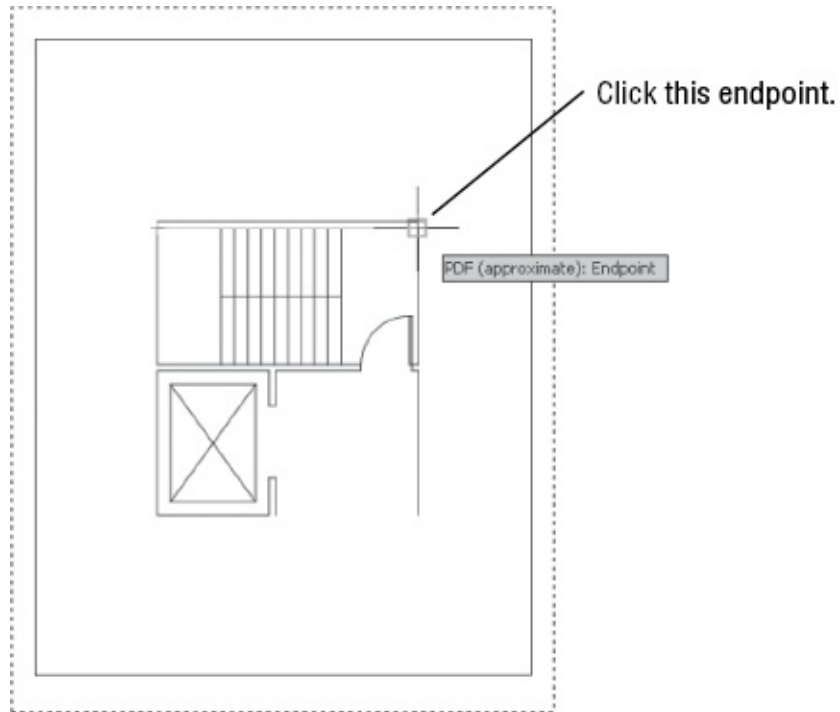

FIGURE 13.12 Selecting the second endpoint of the line for the Scale command
- At the Specify second point: prompt, click the endpoint of the line shown in Figure 13.12.